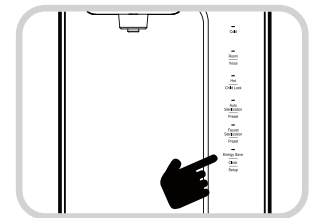

Fig. 21
1. Press the Energy Save/Clock (Setup) button for three (3) seconds in the Waiting Status to put the unit in the User Setting mode. (Fig. 21). The Voice Guide will say "selecting user setting mode" "user setting mode, please set function by pressing the illuminated button".